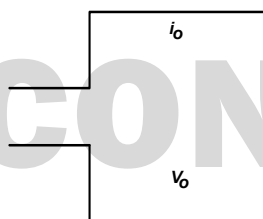
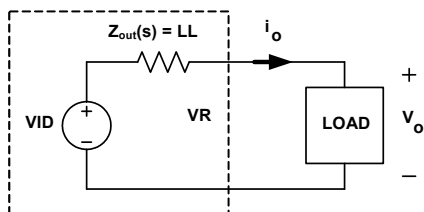

FIGURE 16. DESIRED LOAD TRANSIENT RESPONSE WAVEFORMS
FIGURE 22. VOLTAGE REGULATOR EQUIVALENT CIRCUIT
Assuming the compensator design is correct, Figure 16 shows the expected load transient response waveforms if  $C_n$  is correctly selected. When the load current  $i_{core}$  has a square change, the output voltage  $V_{core}$  also has a square response.
Figure 16 shows the desired load transient response waveforms. Figure 22 shows the equivalent circuit of a voltage regulator (VR) with the droop function. A VR is equivalent to a voltage source (= VID) and output impedance  $Z_{out}(s)$ . If  $Z_{out}(s)$  is equal to the load line slope LL, i.e. constant output impedance, in the entire frequency range,  $V_o$  will have square response when  $I_o$  has a square change.